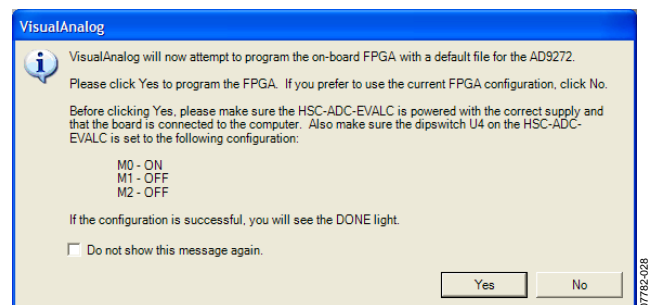

Figure 4. VisualAnalog, Default Configuration Message
2. After the template is selected, a message appears, asking if the default configuration can be used to program the FPGA (see Figure 4). Click **Yes**, and the window closes.